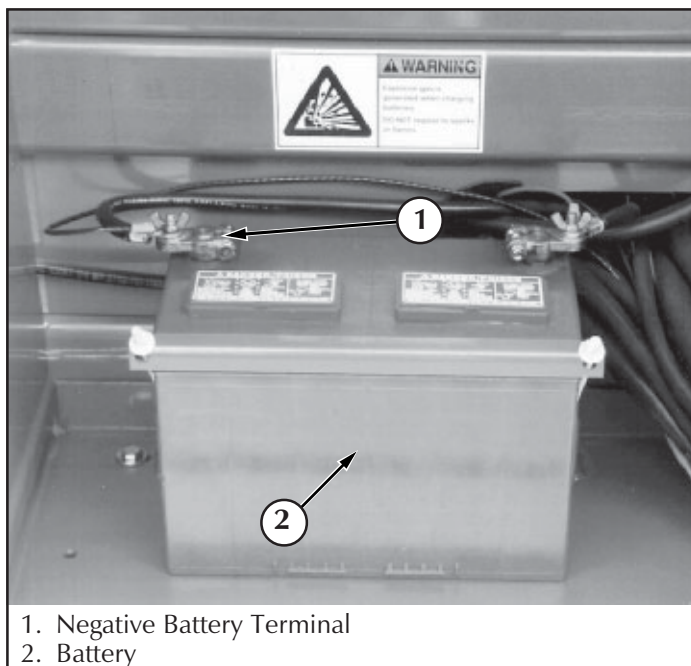

Figure 2-1: Battery
4. Connect the negative (-) lead to the negative (-) battery terminal in power module (Figure 2-1).
3. Disconnect the battery negative (-) lead from the battery terminal (Figure 2-1).